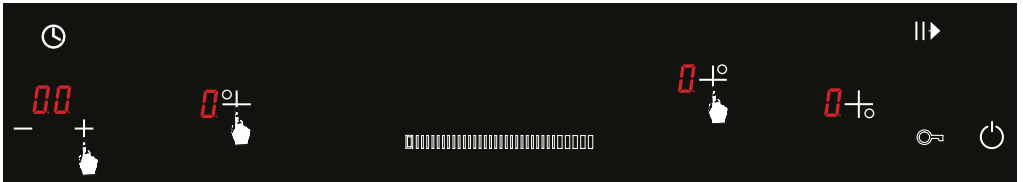
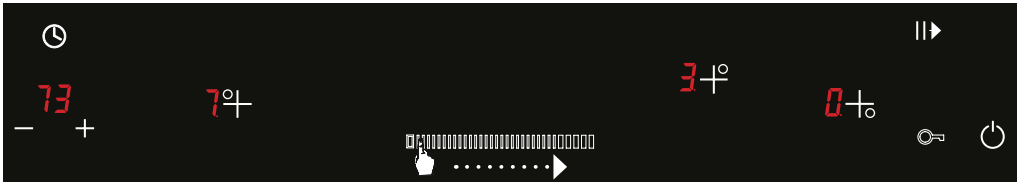

Figure 18
Figure 19
1. Select any hob, you may also set the timer if desired. (See Fig. 18) You may bring the temperature levels of the hobs to the desired level using the slider. (See Fig. 19)